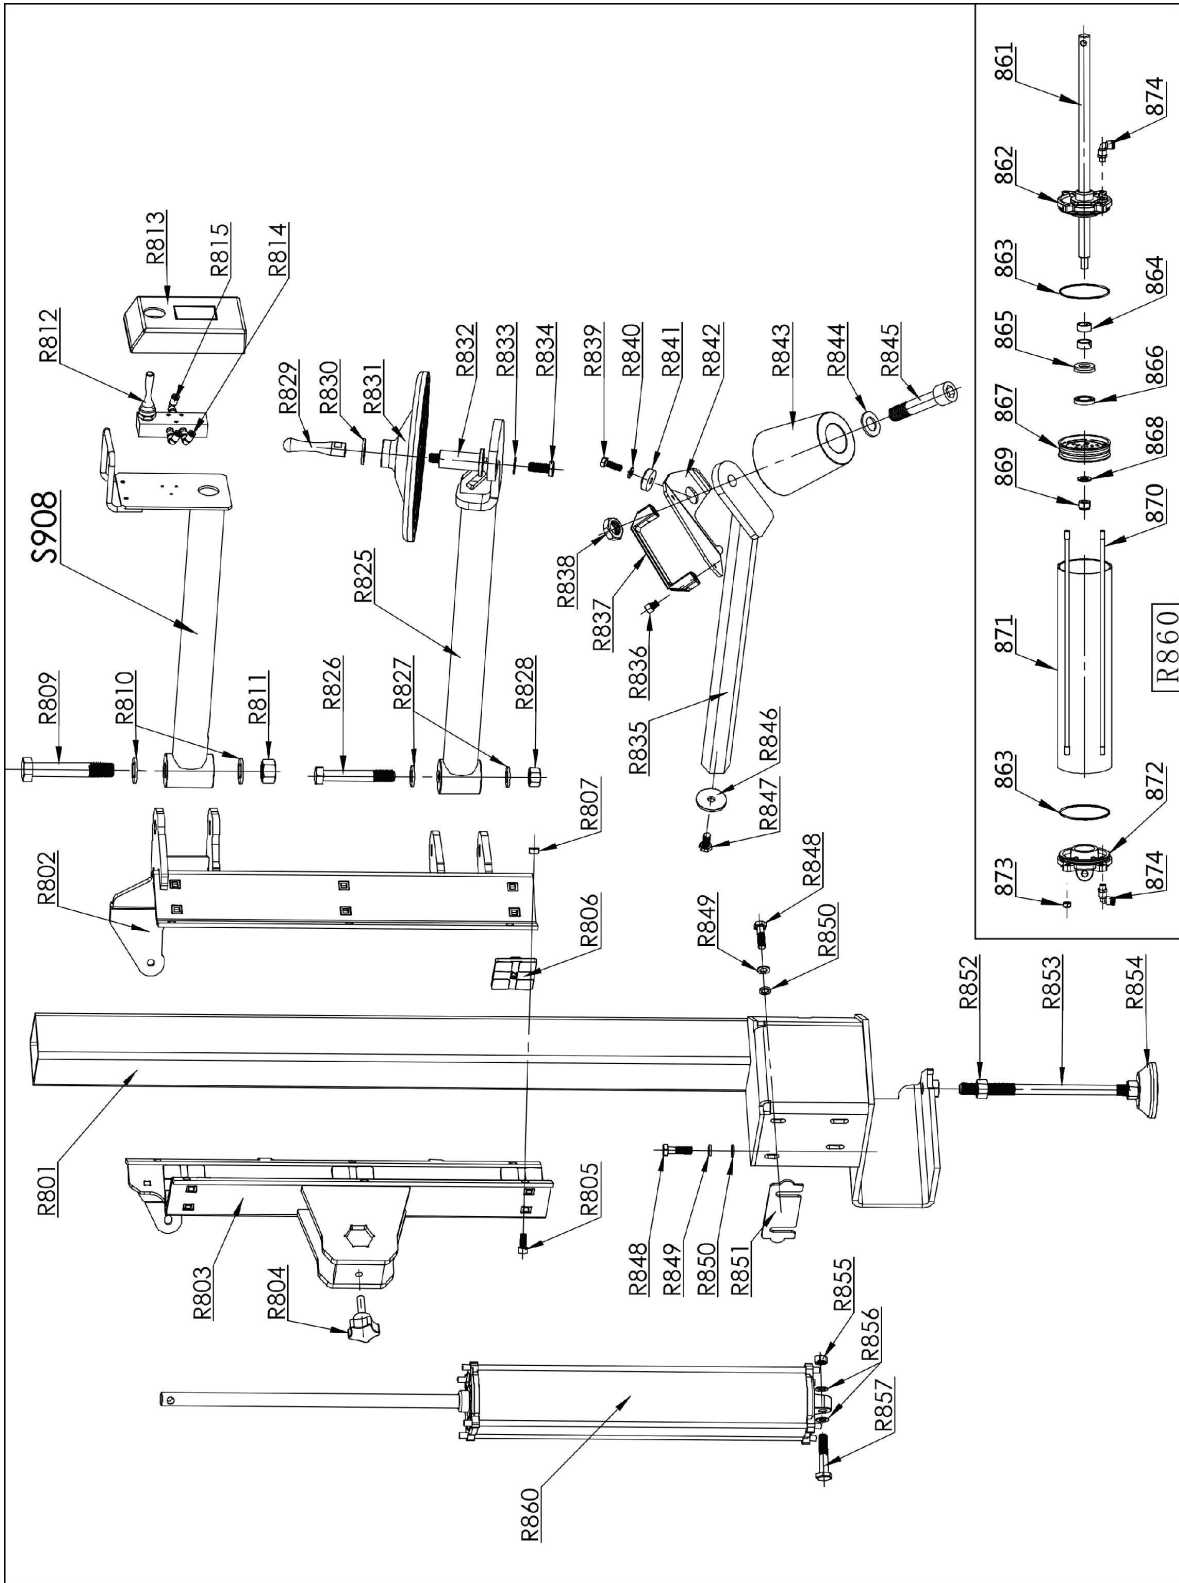

Fig.15
1011814 main body② (Fig.15)
Remark: Other spare parts in Fig. 15, please refer to 《①spare part list》 .
15.Exploded Drawings ①